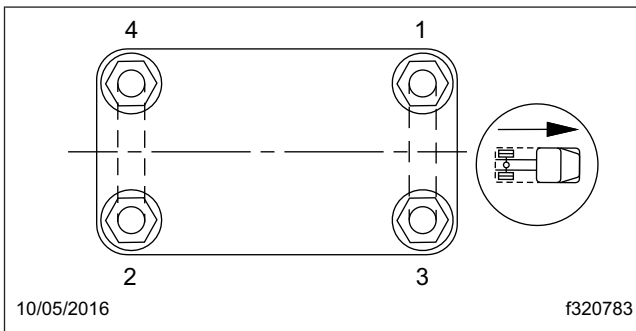

Fig. 9, Tightening Pattern for U-Bolt High Nuts
* Tighten in a diagonal pattern as shown in Fig. 9.